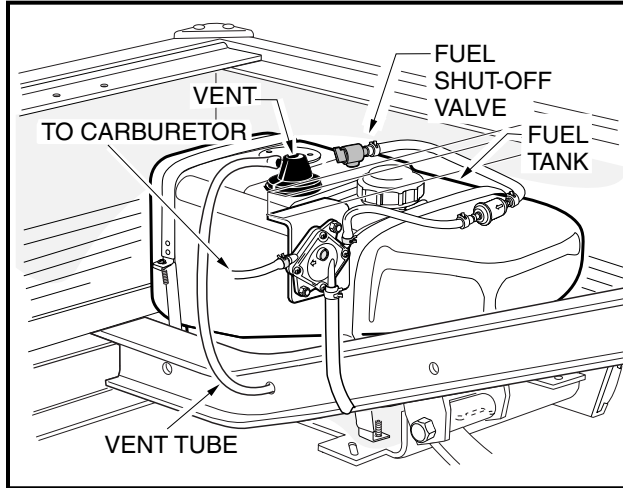
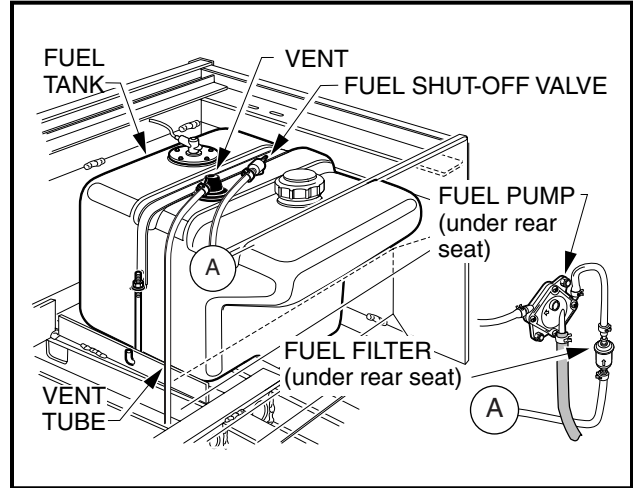

Figure 3-2 P1200 Fuel Tank
Figure 3-3 P1200SE Fuel Tank
9. Disconnect vent tube from fuel tank vent (**Figure 3-2, Page 3-3 or Figure 3-3, Page 3-3**).
2. Remove plug from vent tube and connect to tank vent (**Figure 3-2, Page 3-3 or Figure 3-3, Page 3-3**).